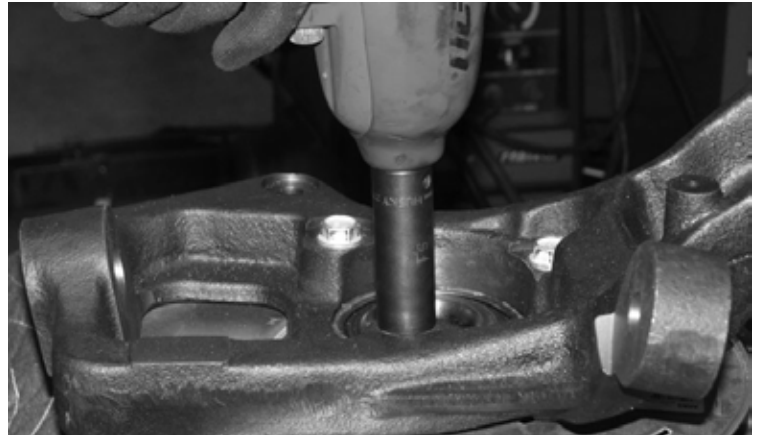

FIGURE 54 - STEP 36
36. Locate FTS20641D, FTS20640D, FTS20642D or FT20736D (Driver Knuckle), assemble the new spindle on the hub assembly. Use thread lock on the factory hardware and torque to 125 ft-lbs. Repeat on passenger side using the corresponding knuckle. **SEE FIGURE 54**